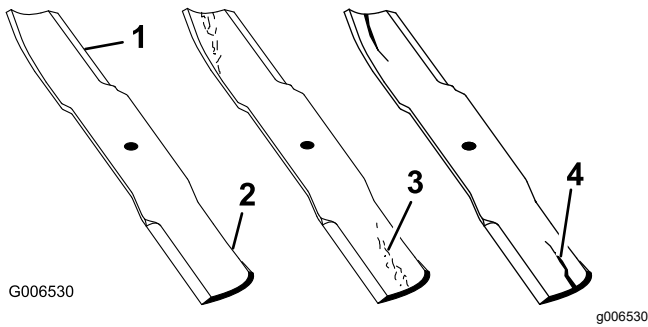

Figure 70
1. Inspect the cutting edges (Figure 70).
4. If you notice any cracks, wear, or a slot forming in this area, immediately install a new blade (Figure 70).